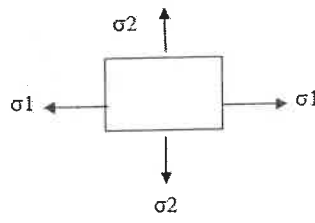

Fig.02
2. For a body subjected to tension $\sigma_1= 200$ Mpa and $\sigma_2=100$ Mpa as shown in Fig.02. Maximum Shear Stress _____ MPa.